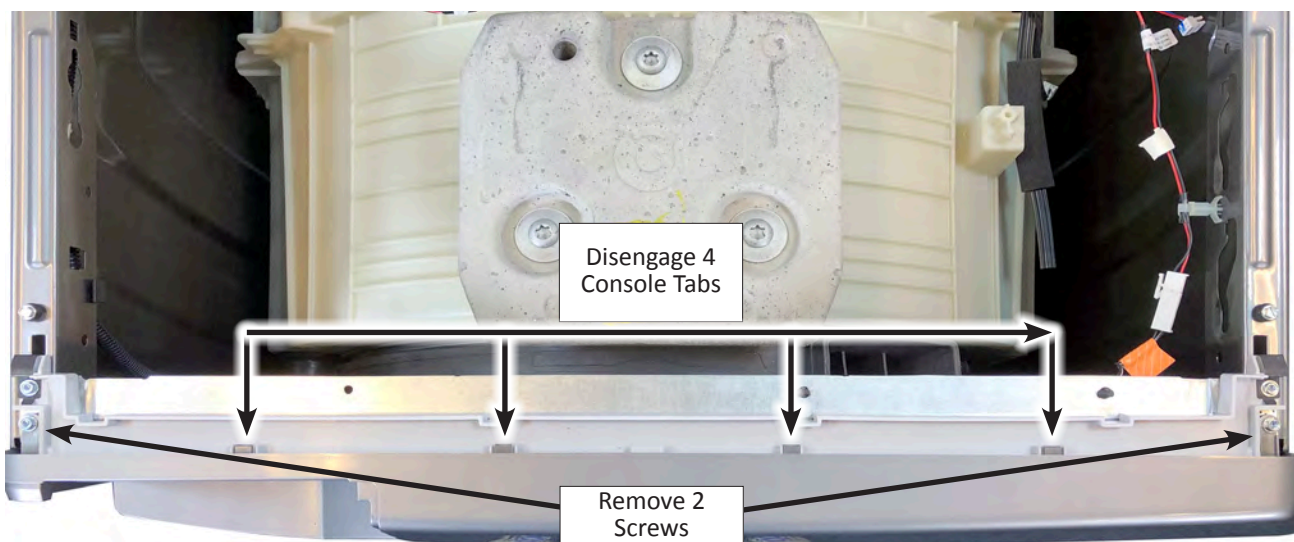

Figure 2 - Remove Front Console Screws
7. Using either a 1/4" hex-head, or T20 Torx driver, the two (2) screws securing the Front Console to the console bracket. See Figure 2 below..
8. Lift up on top edge of console to disengage the four (4) console tabs. Lift up and away from washer. See Figure 2 below.